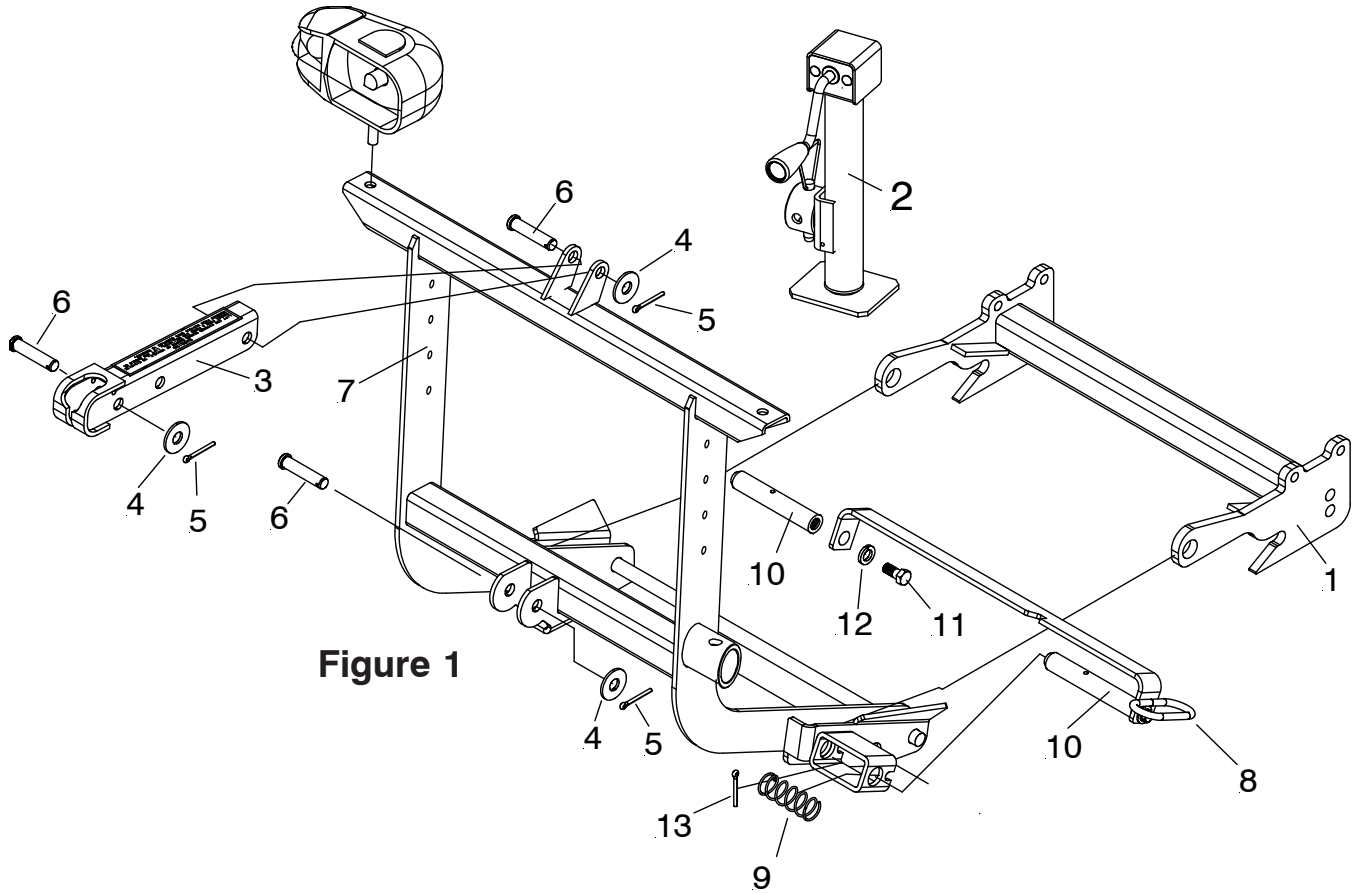

Figure 1
- A. Assemble Clevis Frame (1) to vehicle per separate Mounting Carton Instructions.
- B. **Note: Handle Pin has been pre-assembled to the Lift Frame.** Assemble Pin (10) to Handle Pin (8) using 3/8-16 x 1-1/4" Bolt (11) and 3/8" Poly washer (12). Only tighten until head of bolt begins to touch poly washer. Assemble to Lift Frame (7) by inserting the Pin (10) through the Lift Frame plates, through the center of the spring (9). Compress the spring (9) slightly with your fingers and insert the 3/16" x 1-1/2" Cotter Pin (13) through the small hole towards the center of the pin. With cotter pin (13) fully inserted, bend the cotter pin in place. Align the notch on the Handle Pin (8) to Lift Frame (7) to lock in place (disengaged). **Note: Lubricate the stainless steel pins and Lift Frame bearing surfaces with chassis grease or anti-seize lubricant periodically for easier disengagement of pins.**
- C. Slide Crank Stand (2) to the receiver tube on the Lift frame (7). Pin Crankstand (2) to the Lift Frame (7).
- D. Attach Lift Frame (7) to Clevis Frame (1) (Ref. Figure 1). Twist the Handle Pin so that the two Pins (10) engage. The spring loaded pin should snap into place locking the lift frame to the clevis frame.
- E. Attach Lift Arm (3) to Lift Frame (7), Mount Hydraulic unit to lift frame (7) and to lift arm (3) using Pivot Pin (6), 5/8" Washer (6) and 1/8 x 1-1/4" Cotter Pin (5).
- H. Attach the Lift Chain to the Lift Arm (3) through the hook on the lift arm. Adjust the lift chain at the lift arm so that there are 2-3 links of slack. This ensures that the plow blade will lift fully and be able to follow the ground contour while plowing.